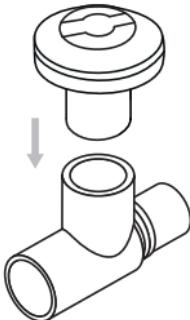
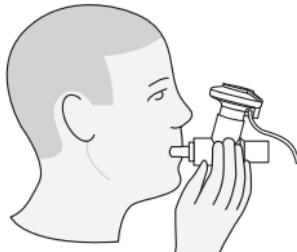

Figure 3. Connecting nebuliser to T-piece
Figure 12. Connecting to a mouthpiece
- 3 Connect the nebuliser to the T-piece by pushing the nebuliser firmly onto the T-piece (Figure 3).
When using a mouthpiece, connect the nebuliser to the T-piece as shown in Figure 3 and then connect the T-piece to the mouthpiece by pushing the parts firmly together (Figure 12).
Warning: To ensure correct nebulisation, maintain the nebuliser in a vertical orientation (Figure 12).